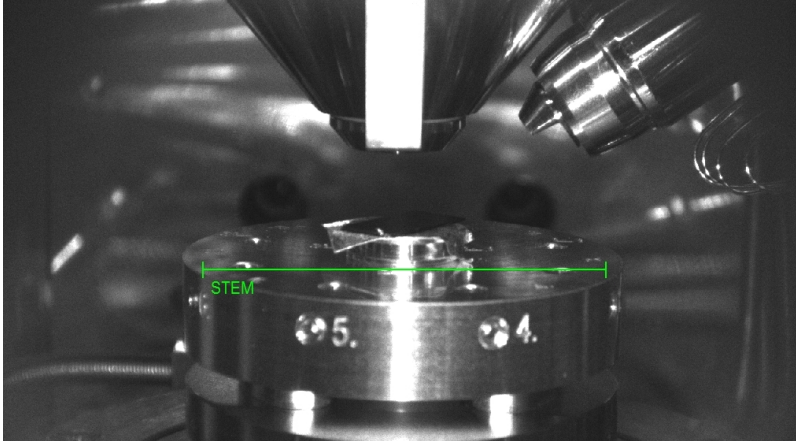

Figure 4.2: The EDX detector (conical object to the right of the objective lens) is inserted completely.
- Monitor insertion on the IR Camera, see Figure 4.2